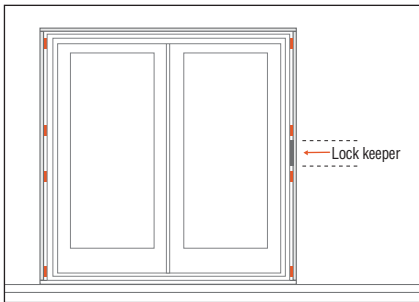

fig. 19
- b. Use shims to center the door in the rough opening and to hold the door plumb and square until the fasteners have been installed. Placing the shims behind each screw hole. Behind the lock keeper, from the center of the keeper, measure up 4" for one set of shims and 4" down for the other set of shims. (**fig. 19**)